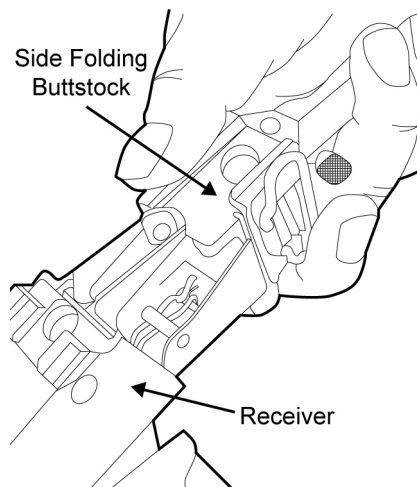

Figure 36. Removing the Side Folding Buttstock from the Receiver.
- c. Pull the side folding buttstock from the rear of the receiver. Refer to Figure 36.